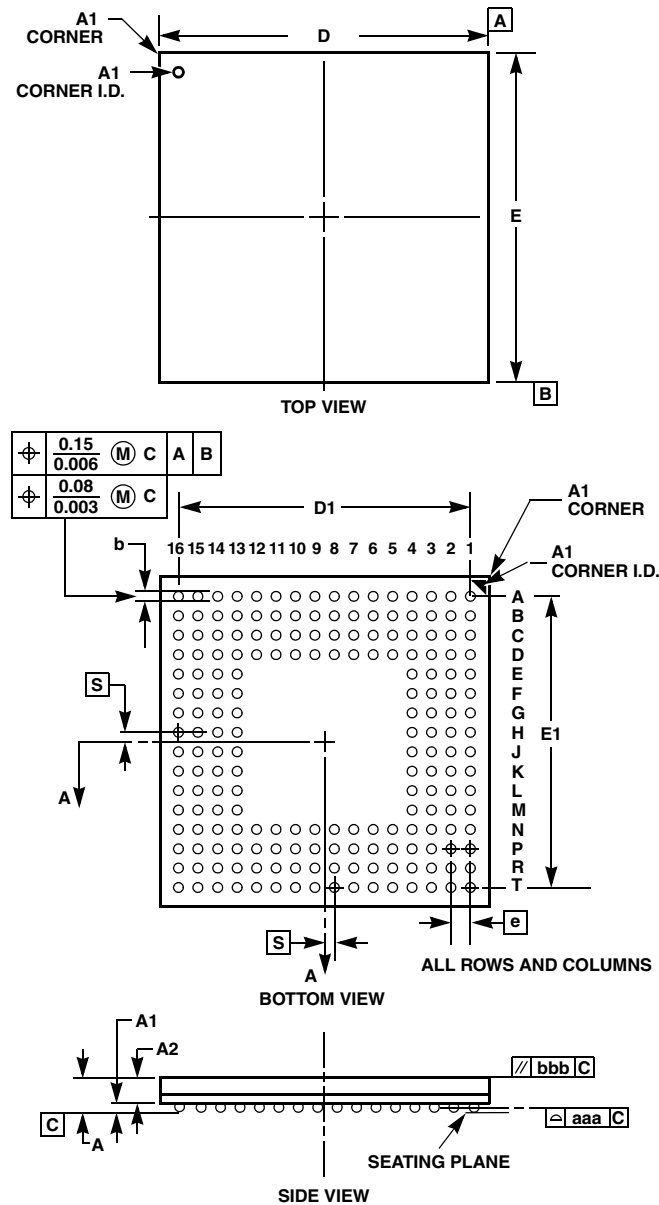

Figure 6: Plastic Ball Grid Array Packages (BGA)
- NOTES for Figure 6 and Table 5: